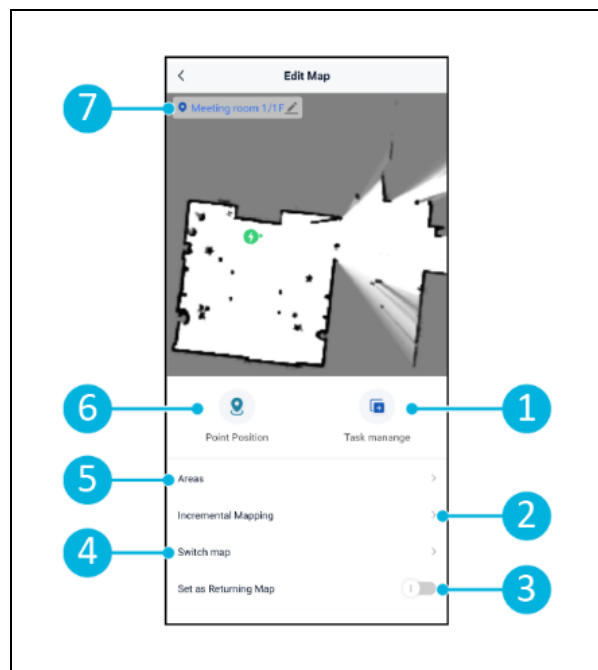

Figure 21
- Ensure the map you wish to edit is selected by selecting [\[Switch Map\]](#) (Figure 21, pos. 4).
2. Select [\[Incremental Mapping\]](#) (Figure 21, pos. 2). Ensure the remote control is turned on and connected.
1. Make sure the co-botic 45 is in the map that is currently selected (Figure 21, pos. 4).